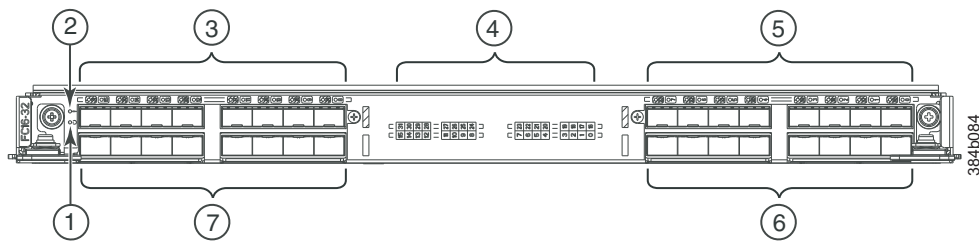

Figure 45. FC16-32 port blade
- Figure 45 shows an FC16-32 port blade